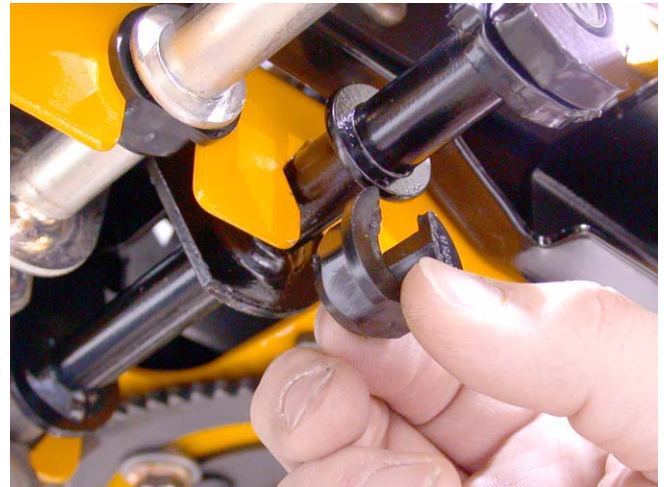

Figure 20.6
- 20.6. Press the brake pedal shaft as far outward as possible, and pry the worn bushing out of the bracket. See Figure 20.6.